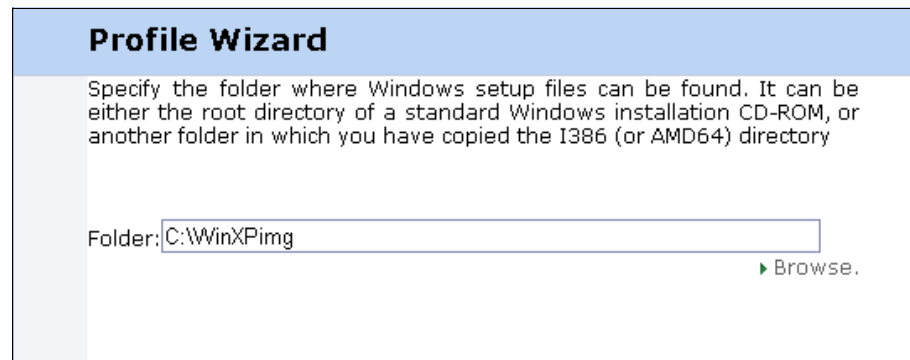

Figure 2-9 Source File Location Specified
6. In our scenario we select the location where the files are located on the Tivoli Provisioning Manager for OS Deployment server as shown in Figure 2-9 on page 25.